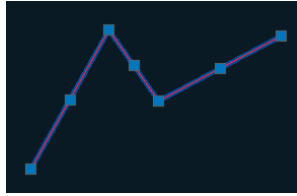

FIGURE 2.11 Selecting lines before deleting them
4. Click each of the segments, one at a time. Blue grips appear on the lines' endpoints and midpoints (see Figure 2.11). Grips are used for editing, and you'll learn more about them in Chapter 4, "Editing Entities." In the meantime, it's helpful to know that if you press the Delete key, the lines are gone.